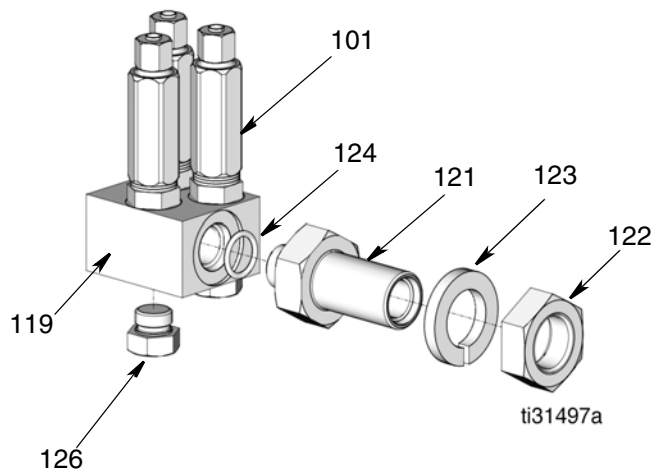
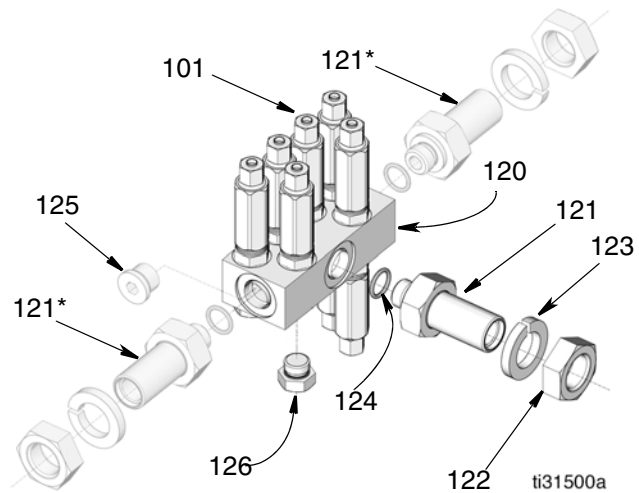
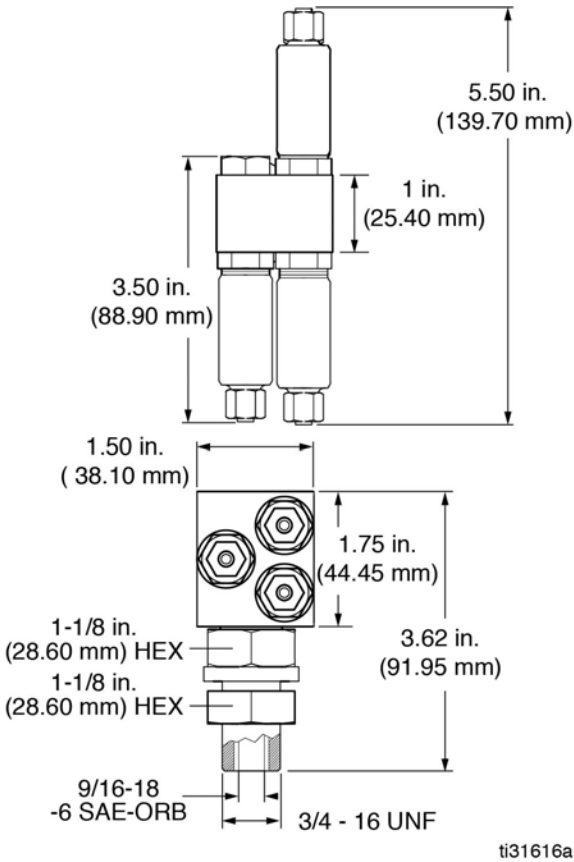

FIG. 32
FIG. 33
FIG. 34
- 6 port manifold - used in lubrication systems with 6 or less lubrication points (FIG. 32 and FIG. 34).
- 12 port manifold - used in lubrication systems with 7 to 12 lubrication points (FIG. 33 and FIG. 34).
*In FIG. 33 the Manifold Stem (121) is shown installed in the bottom port. It can also be installed in the side ports.
1. Install the manifold stem (121) and o-ring (124) in the inlet port of the injector manifold (119 or 120) (FIG. 32 and FIG. 33, page 42).
2. Use plugs (126), to block any ports not used in the injector manifold (FIG. 32 and FIG. 33, page 42). Be sure o-ring is installed on the plug. If additional lube points are needed these plugs can be removed and replaced with appropriate sized injectors and lube lines.